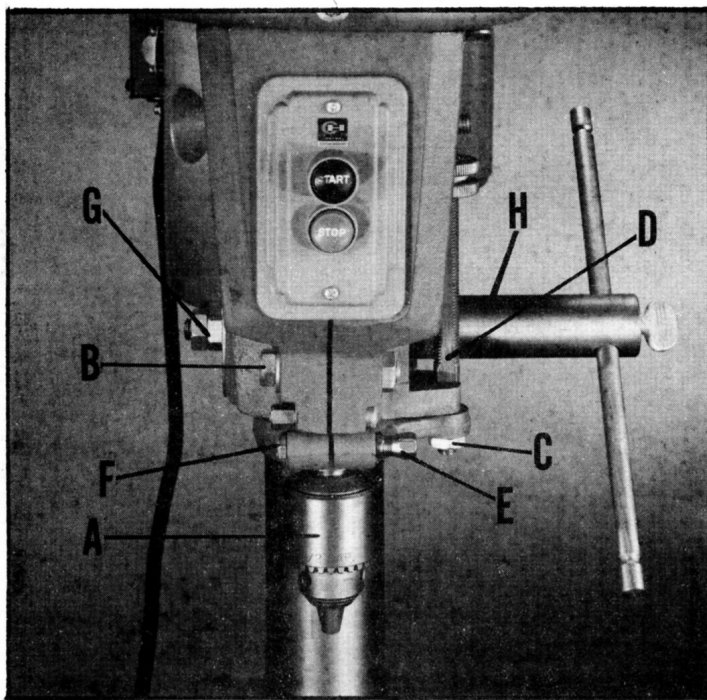

Fig. 4.
1. Remove the chuck (A) Fig. 4. This may be done by first lowering the spindle about two or three inches and locking the quill locking screw (B) Fig. 4.
2. Remove the nut (C) and stop rod (D), Fig. 4.
3. Loosen the nut (E) and screw (F) Fig. 4.
2. Lock the quill in place by tightening the quill locking screw (B) Fig. 4.
7. Remove the two nuts (G) Fig. 4, and remove the pinion shaft (H)
8. Loosen the quill locking screw (B) Fig. 4, and remove the quill and spindle from the drill press head.